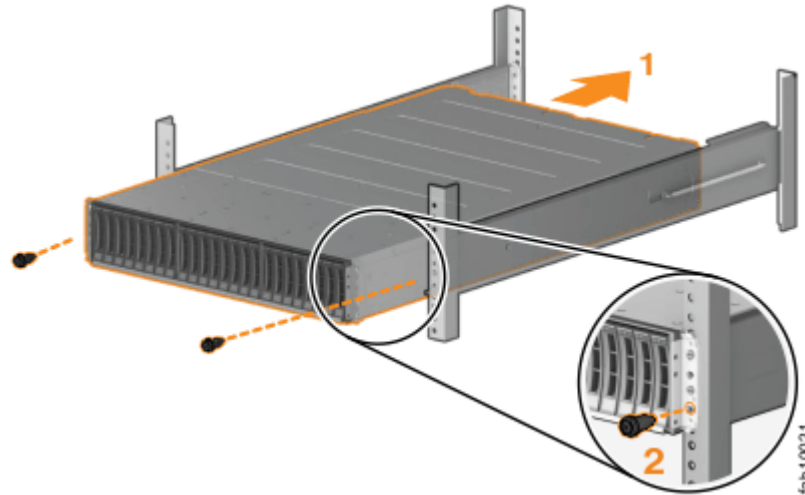
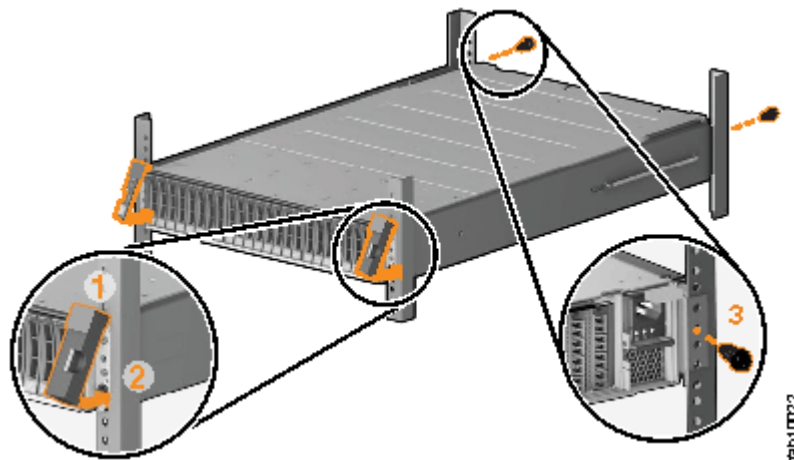

Figure 34. Inserting the enclosure
Figure 35. Reinstalling enclosure end caps
- See Figure 34 on page 69.
(See Figure 34 on page 69 and Figure 35 on page 69.)
See Figure 35 on page 69. The left end cap has indicator windows that align with the status LEDs (light-emitting diodes) on the edge of the enclosure.